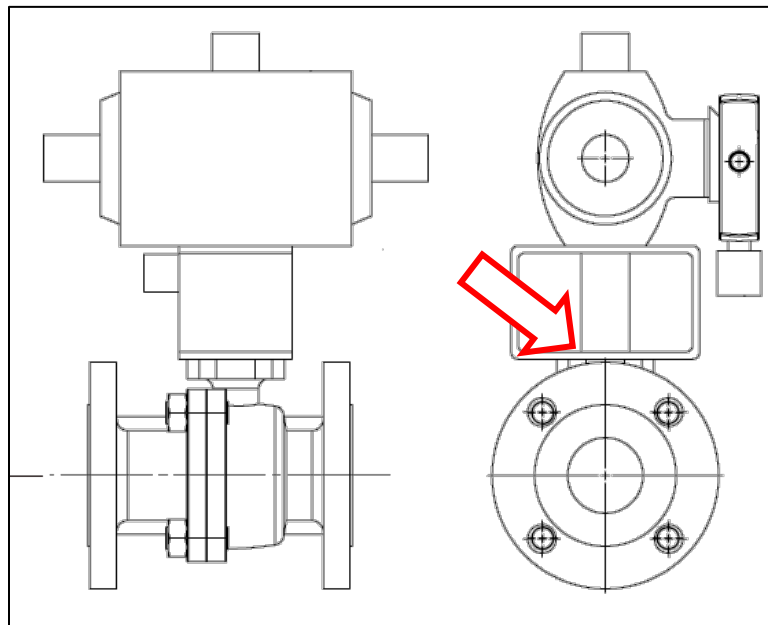

FIGURE 1.2-1: KITZ VALVE PACKING
- 3) Pay particular attention to the Kitz bypass and blocking valve packing (Figure 1.2-1). If the valve packing is determined to be leaking, tighten the valve packing **only enough to stop the leak**.